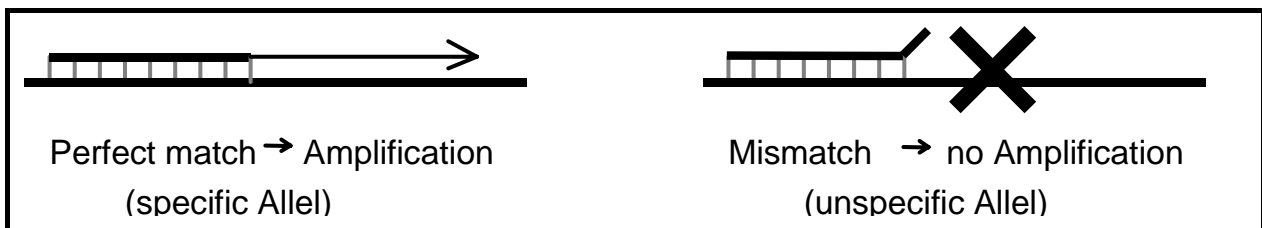

Fig. 1: Principle of SSP-PCR
The basic material for typing with **HISTO TYPE SSP kits** is purified DNA. The test procedure is done by using the Sequence Specific Primers (SSP) ①-PCR (see Fig. 1) [2,3]. This method is based on the fact that primer extension, and hence successful PCR relies on an exact match at the 3'-end of both primers. Therefore, only if the primers entirely match the target sequence is amplification obtained which is subsequently visualised by agarose gel electrophoresis.